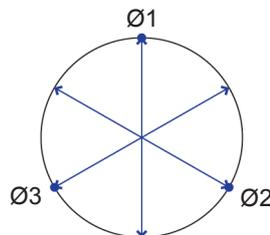

Figure 1.6: Mark the circumference of the cylinder
3. Use a marking pen to mark off 120° along the circumference of the first cylinder (Figure 1.6).